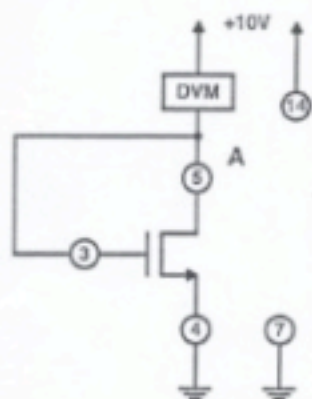

Figure 5.3 Measurement of V_T and k for An n-Channel Device
- Assemble the circuit shown in Fig. 5.3. Notice the relationship to Fig. 5.2. Note that the NMOS substrate is grounded through pin 7.